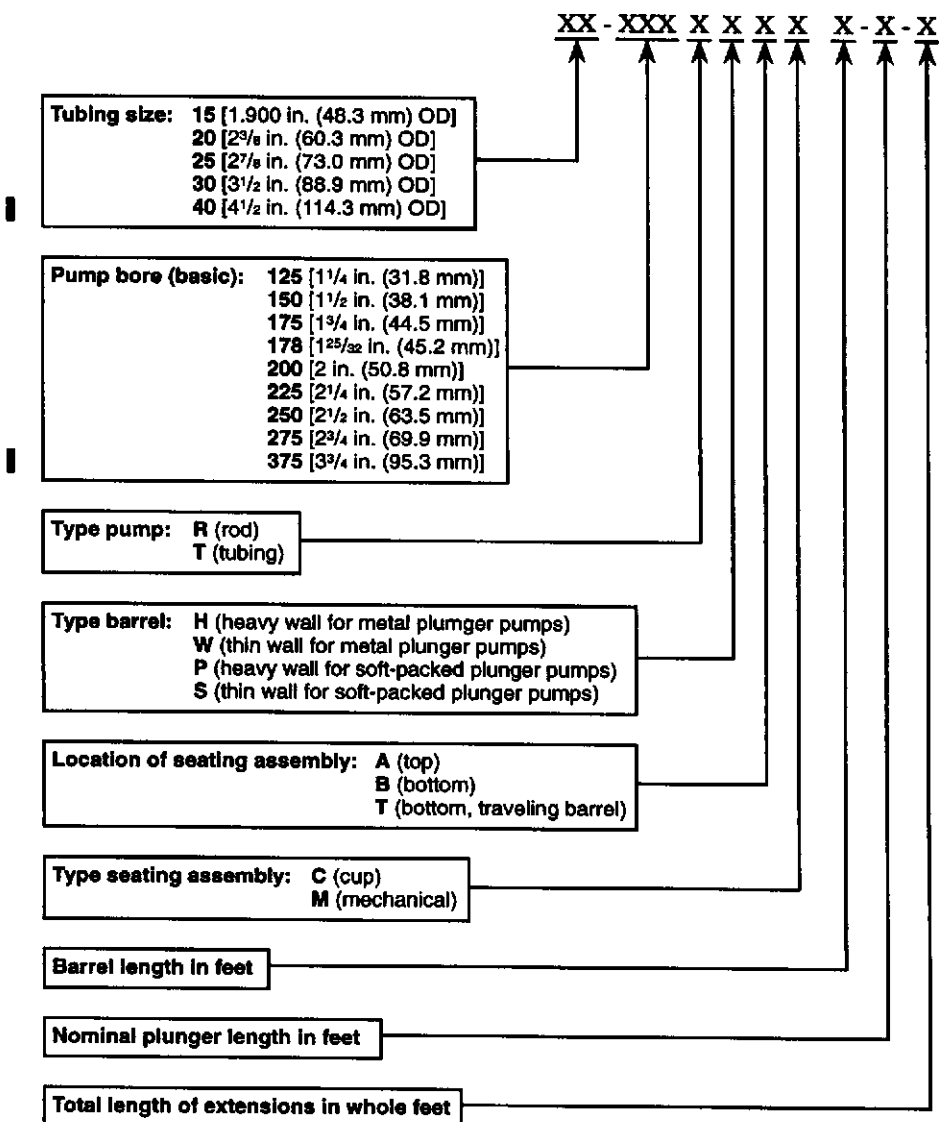

Figure 1—Pump Designations
3.2 Complete pump designations, as shown in Figure 1, include: